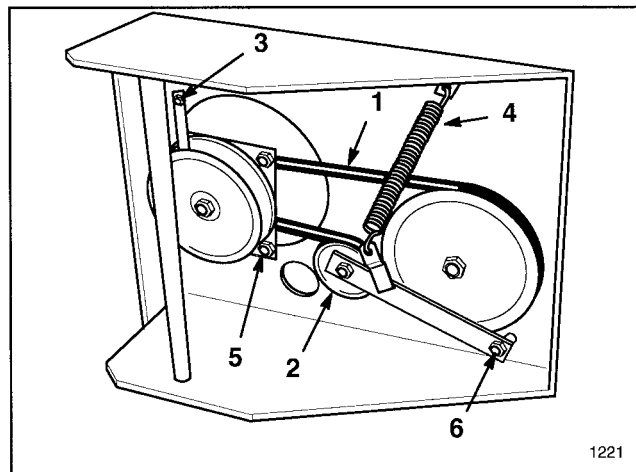

Figure 19
2. Disconnect in-line wire connectors from wiring harness (Fig. 19).
3. Remove left front engine mounting bolt securing clutch retainer to frame. Unhook retainer from clutch and remove retainer (Fig. 19).
4. Unhook tension spring from side of frame (Fig. 19).
7. Install belt around idler pulley (Fig. 19).
8. Torque pivot bolt to 35-40 ft-lb. Install tension spring between idler arm and frame bracket (Fig. 19).
1. To adjust clutch, tighten or loosen locknuts on flange studs (Fig. 19).